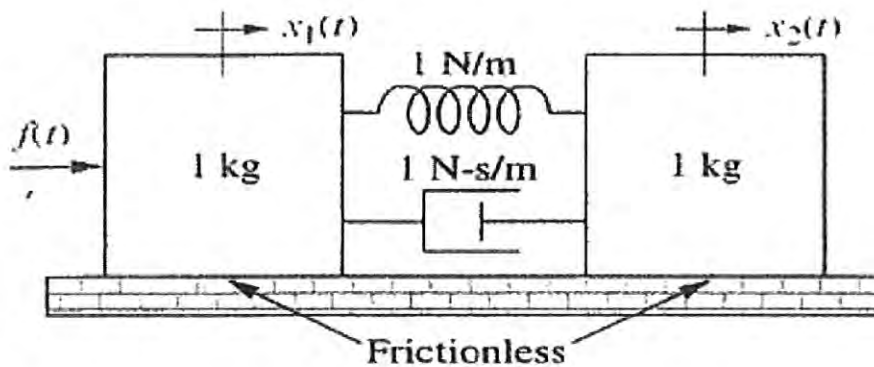

Figure 2
- c) For the translational mechanical system shown in Figure 2 below, determine the transfer function  $G(s) = \frac{x_2(s)}{F(s)}$ . Assume zero initial conditions. **(8 marks)**